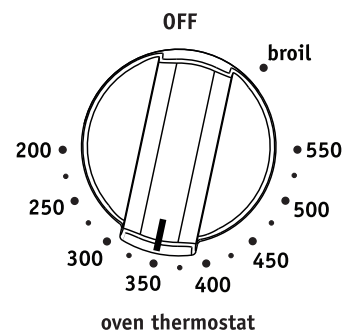

Figure 8: Oven temperature control
2. Turn the oven temp. control knob to the desired oven temperature (Figure 8).